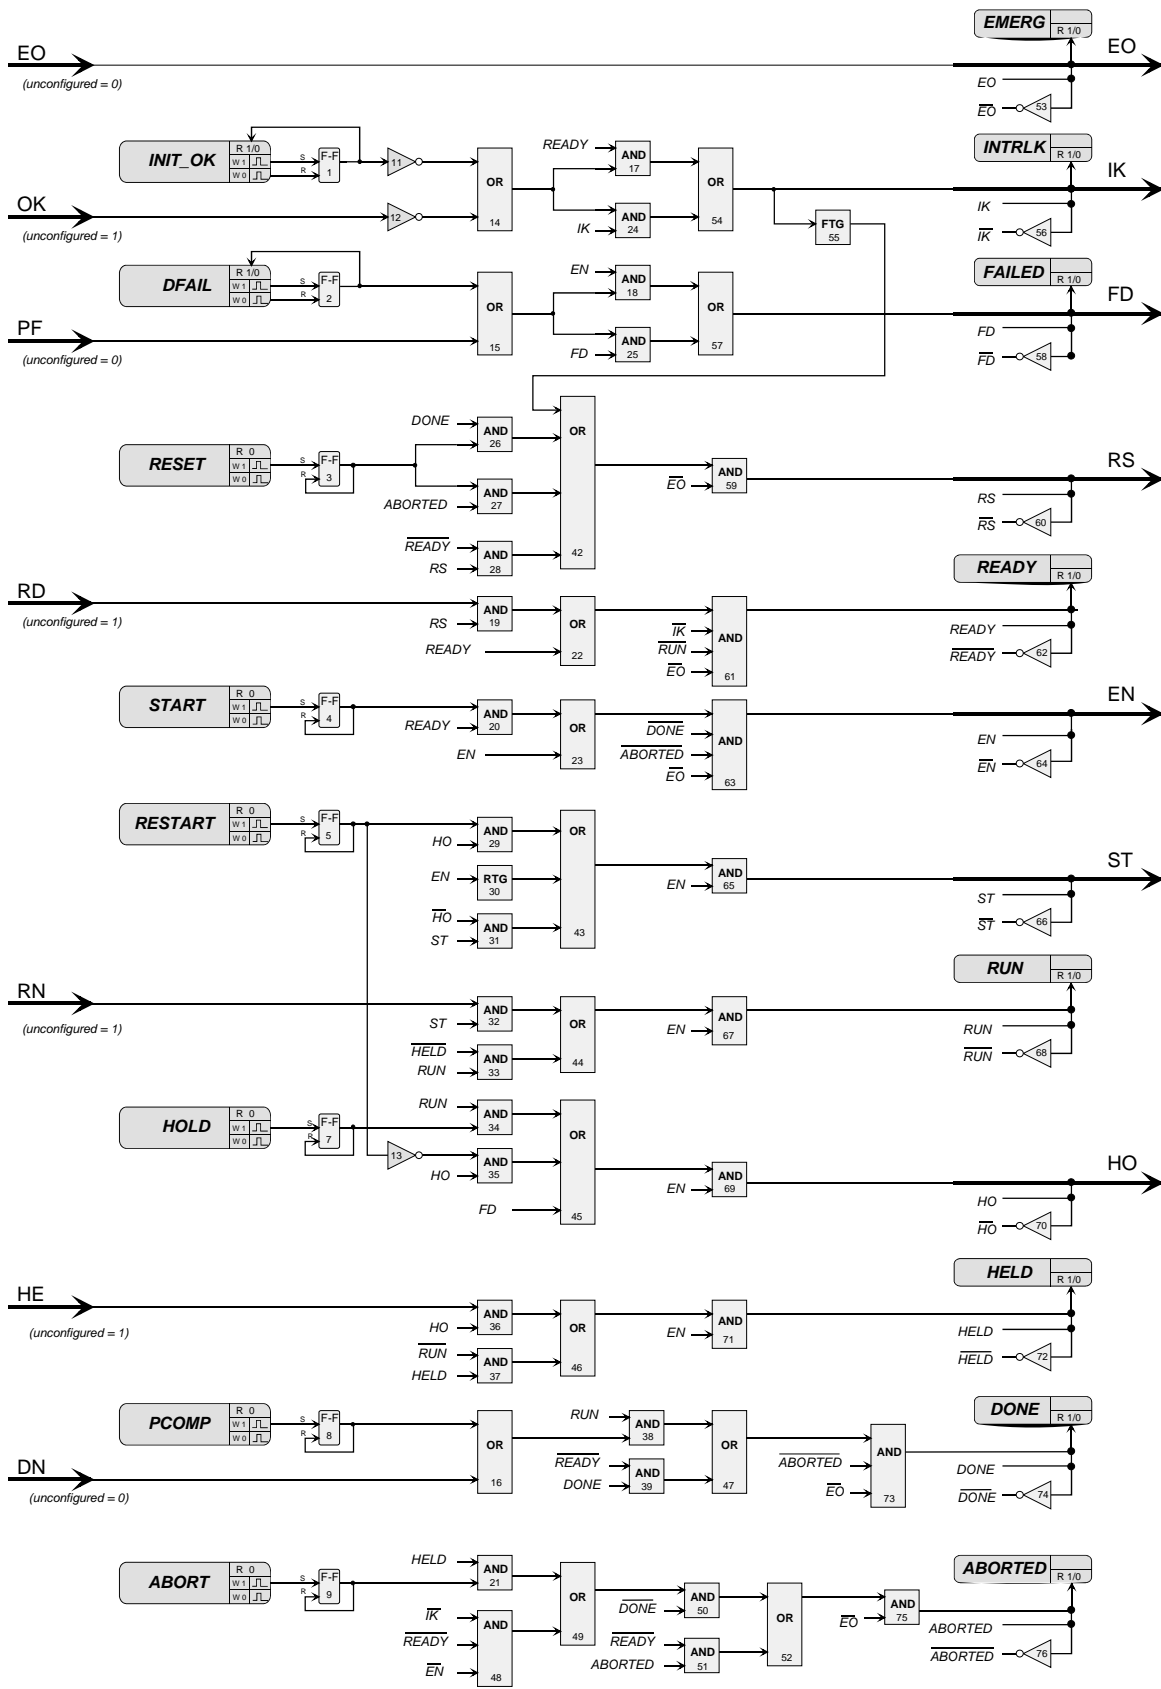

Figure 3-1 Logic Diagram
The logic performed by the **PCOM** block is detailed in Boolean form in Figure 3-1. Network communication can be either Modbus or LIL (Local Instrument Link). Details are listed in the Network Communications section. The LOOP # configured in the ODC or ODS function block for the loop determines the location of the status word and the status coils in the Modbus mapping. Communication states are represented in Figure 3-1, on the next page, using the symbols shown below. Modbus states are mapped in coils and LIL states mapped into two 16-bit status word as shown below. Three global channels are used to send out the two status words and an integer value from 1-7 that represents the status of the PCOM block: 1=ABORTED, 2=DONE, 3=HELD, 4=RUN, 5=INTRLK, 6=READY, 7=EMER OR. The location of the first channel is configured using the LIL CHAN parameter, represented by channel z in the LIL mapping tables.
Each communication state is read as a 1 or 0. Using Modbus, a write of a 1 (W1) or a 0 (W0) will affect the communication state as defined by the associated logic in Figure 3-1. The W1 or W0 is equivalent to a Mask ON or a Mask OFF using LIL commands. All unconfigured inputs will be treated as low (0) except OK, RD, RN and HE which will be treated as high (1). Three of the output states, EO (“EMERG”), IK (“INTRLK”), and FD (“FAILED”) can be configured for priorities 0-5. This will affect the flashing, etc. as previously described for other controller status conditions. These states also have unacknowledged bits as detailed in status word 2. Conditions that require acknowledging can be acknowledged by either using the local faceplate ACK button or by writing to the individual not acknowledged bit or the Not Ack’d PCOM bit.